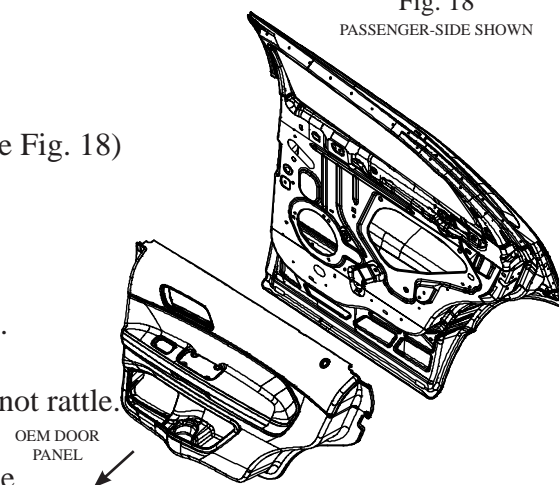

Fig. 19
- E. Remove the top portion of OEM Stud (above nut) holding the window track into place. (See Fig. 19)
- A. Place the ABS Door Panel against the door and align and install the lower two OEM screws into the existing holes on the bottom of the door. (See Fig. 19 & 20)